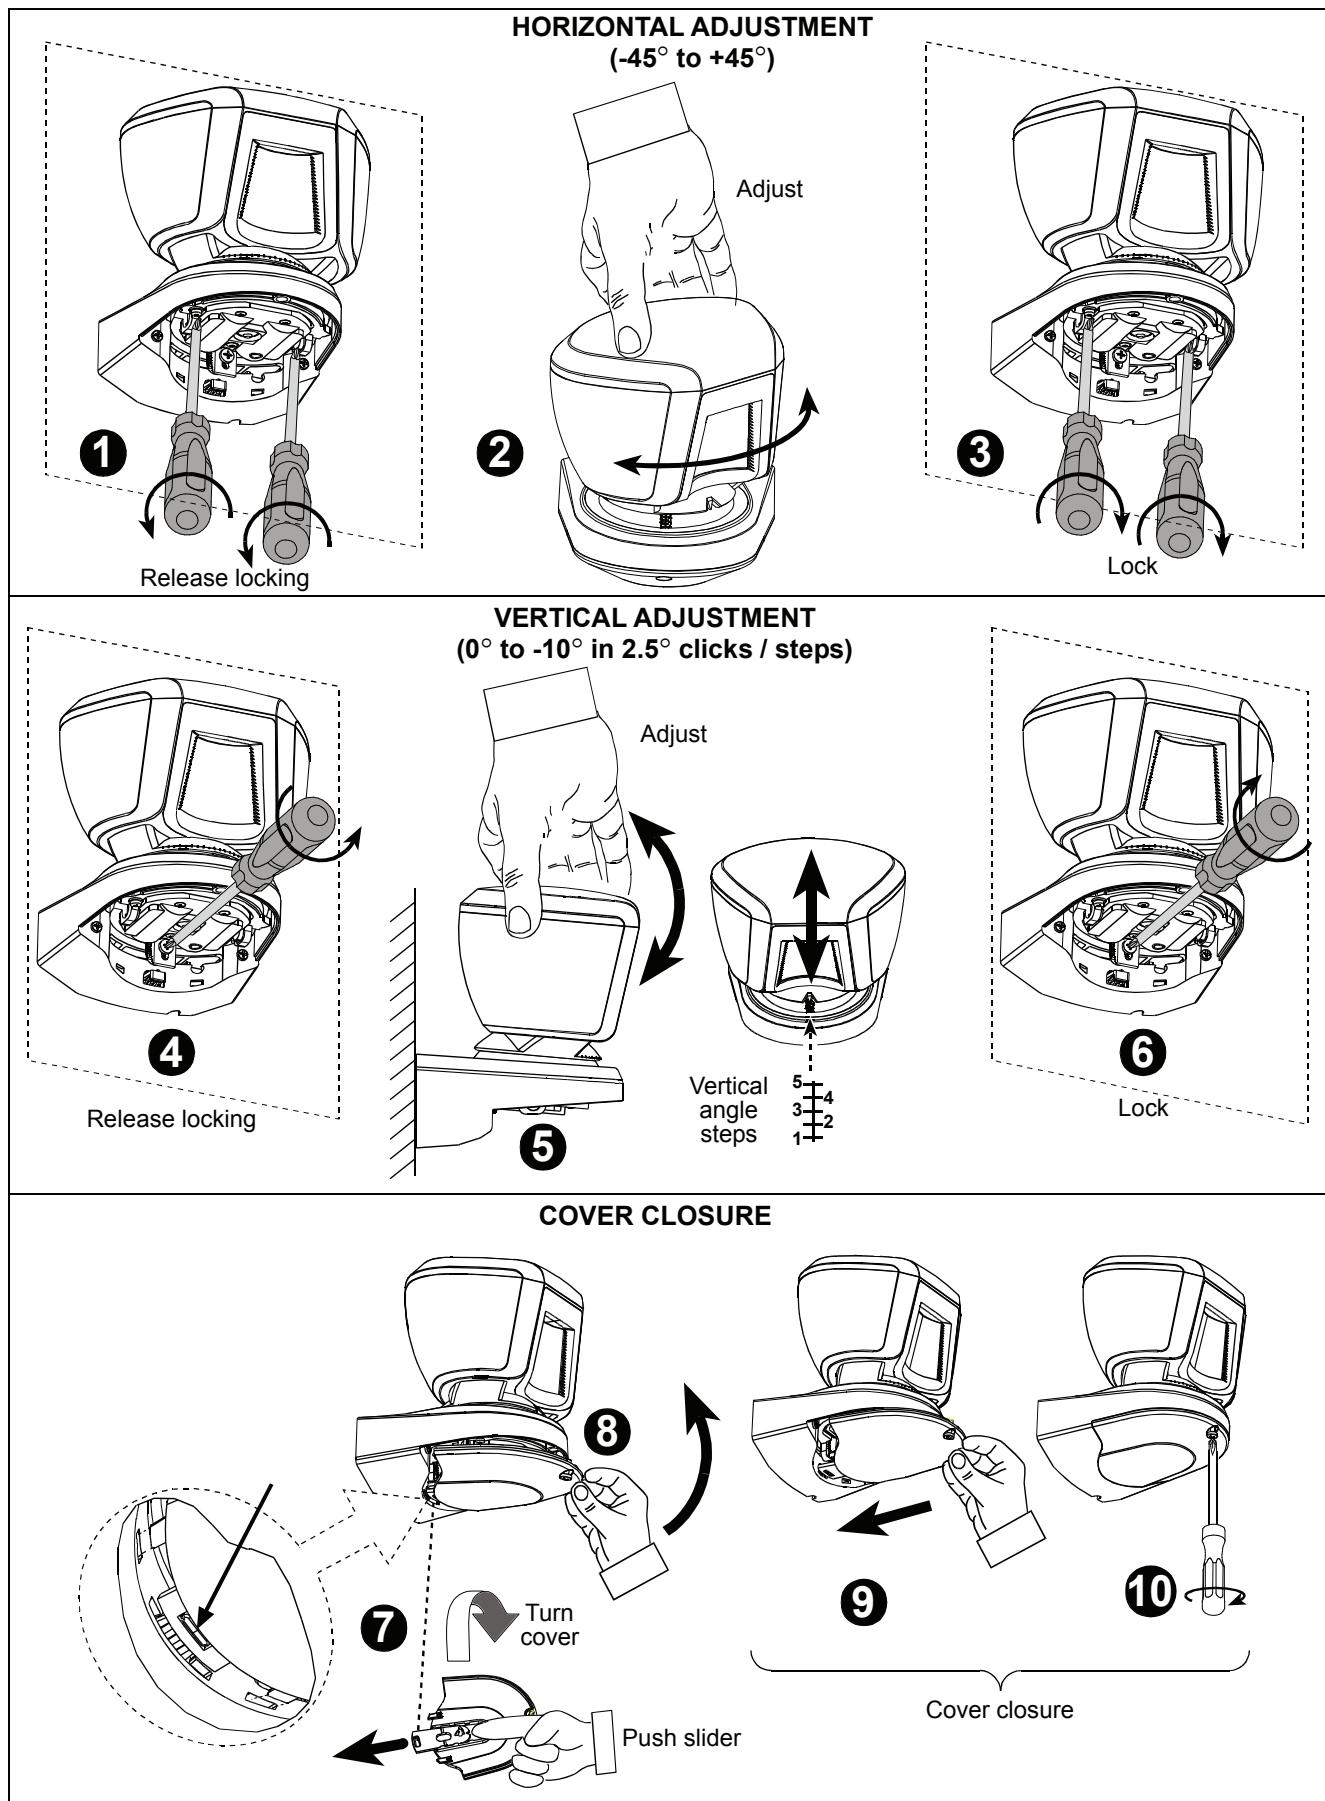

Figure 5 - Adjustment and Cover Closure
B. Adjust detector's horizontal and vertical angles (see Fig. 5), according to the surveyed ground surface. The vertical angle indicator position for various installation height and coverage distance combinations is detailed in Table 2 (the information refers to a relatively flat surveyed area, however, in any case the vertical adjustment should be verified by walk-test).
3.6 Cover Closure (see Fig. 5, steps 7-10)